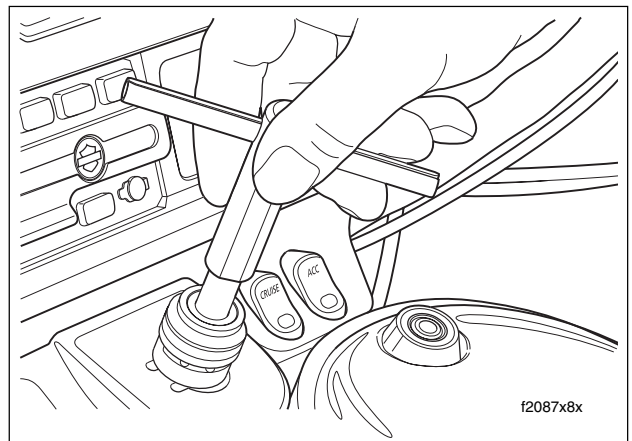

Figure 8-71. Rotate Alignment Tool Without Bottoming
- b. Remove knob and insert alignment tool so that the bottom of the handle is approximately 1/2-3/4 inch (12.7-19.1 mm) from the top of the threaded post, and then hold. See Figure 8-71.